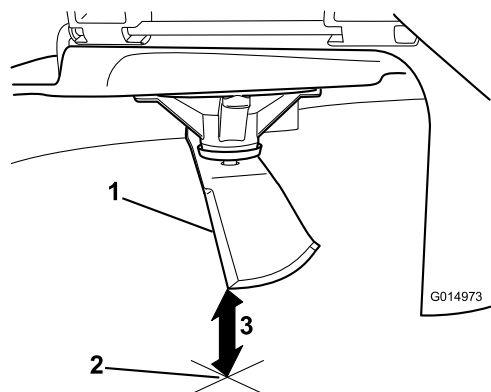

Figure 110
5. Measure from the tip of the blade to the flat surface (Figure 110).